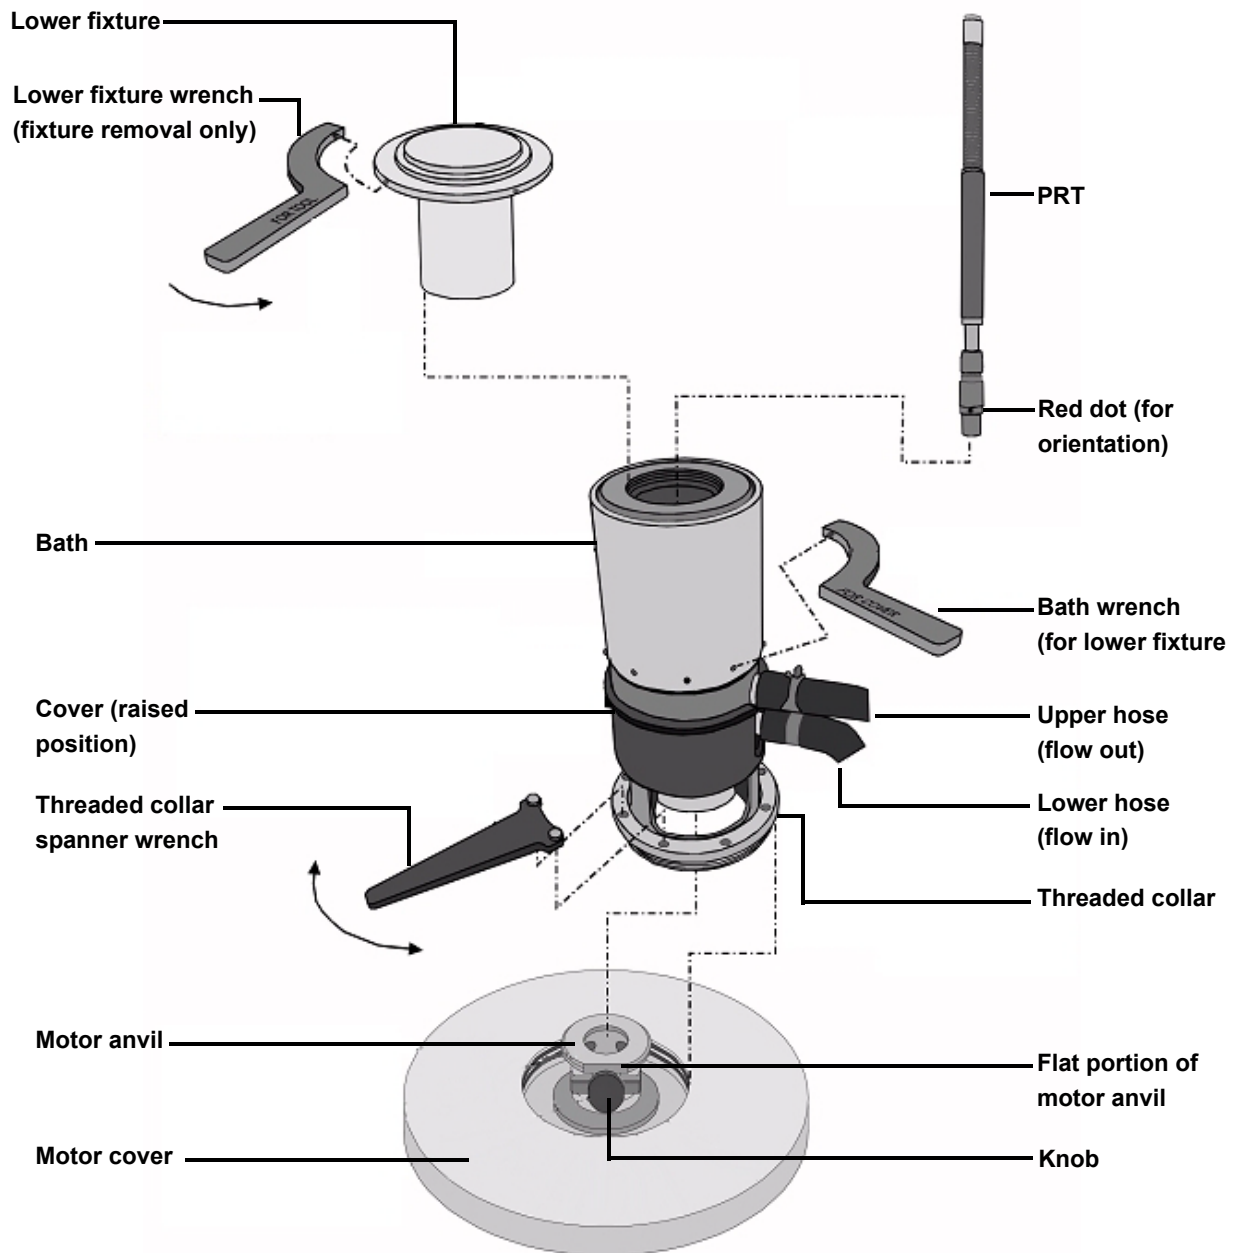

Figure 2 Overview of Sealed Fluid Bath assembly and installation
Follow these instructions to install the Sealed Fluid Bath. Refer to Figure 2 for an illustrated parts and assembly breakdown.
- 7 Insert the appropriate PRT into the bath, making sure to align the red dot on the PRT with the flat portion of the motor anvil. Refer to Figure 2 for correct orientation. Rotate the PRT until it drops securely into the bath housing. The instrument will begin to read temperature.